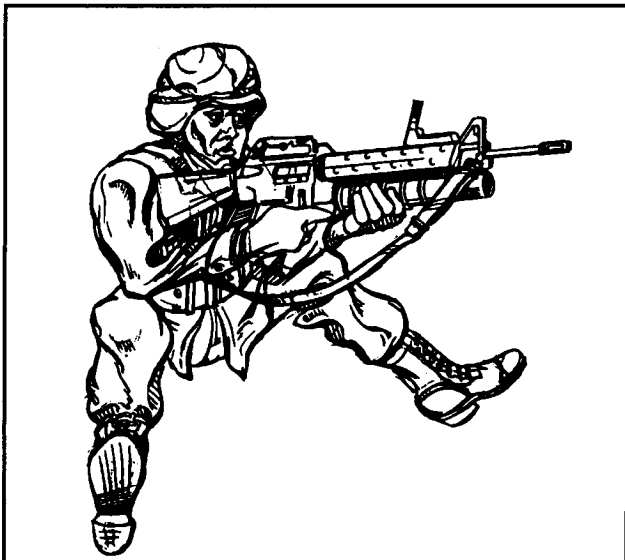

Figure 5-3. Sitting position (open-legged).
(3) **Sitting position, open-legged.** Figure 5-3 shows the open-legged sitting position. To assume this position—